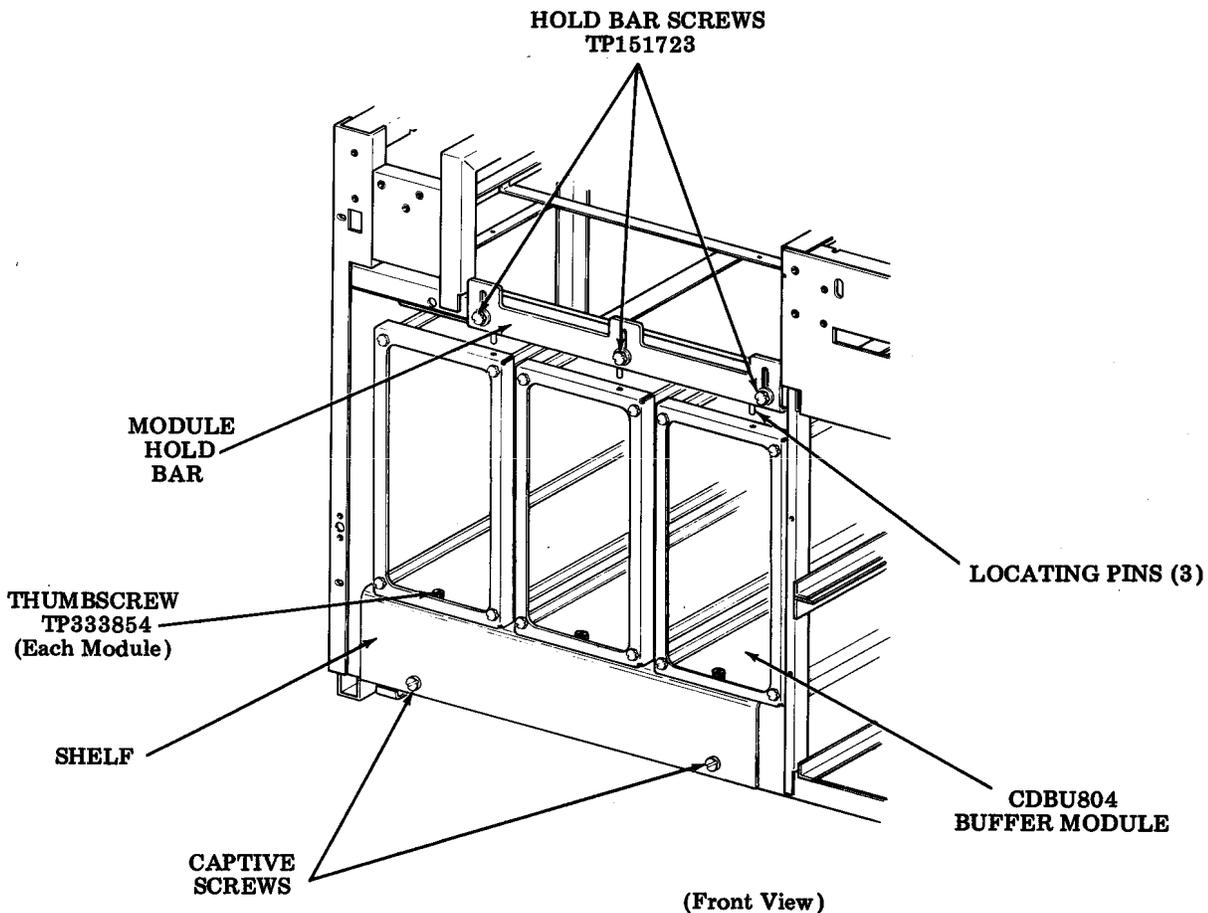
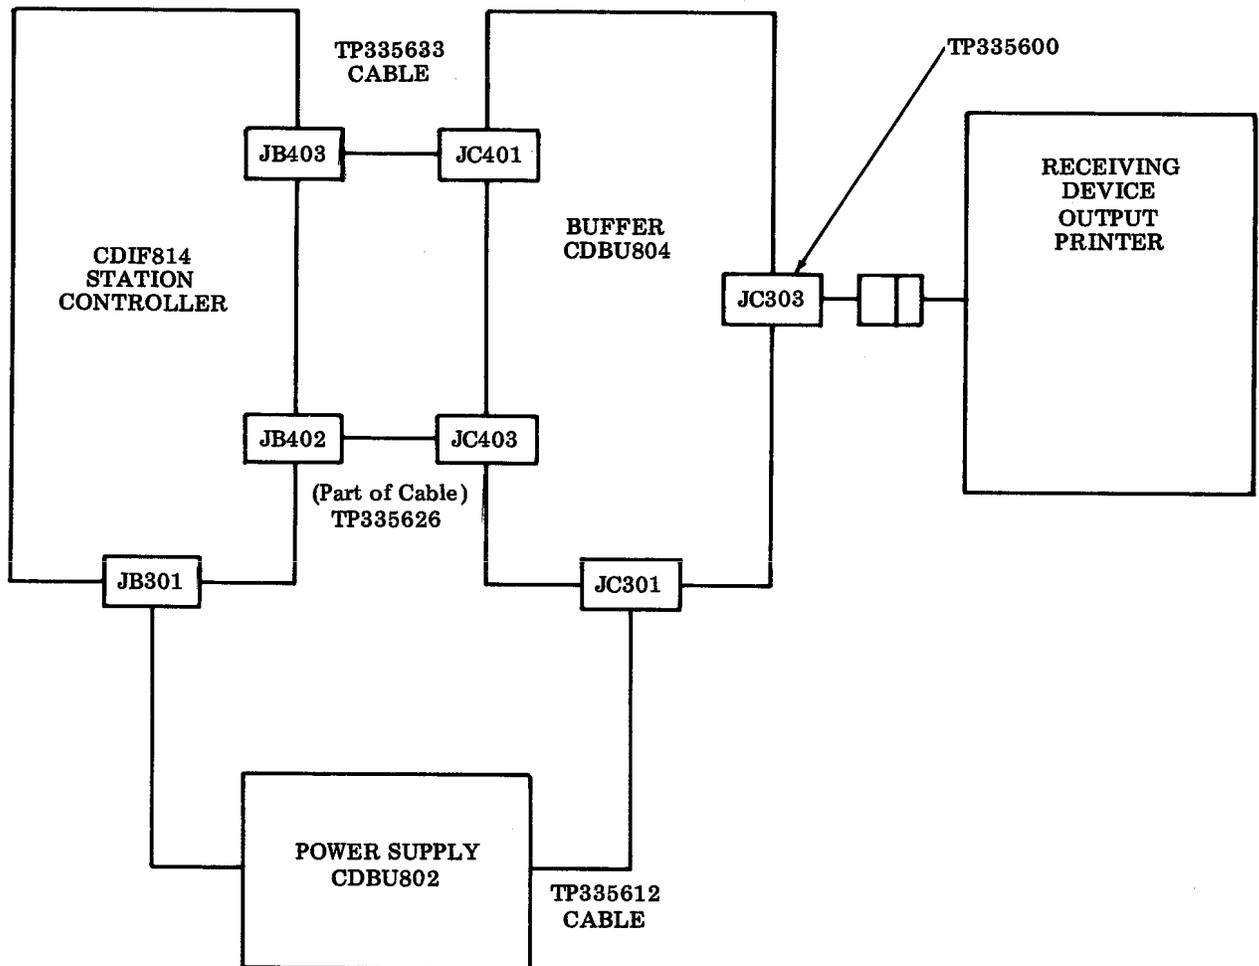
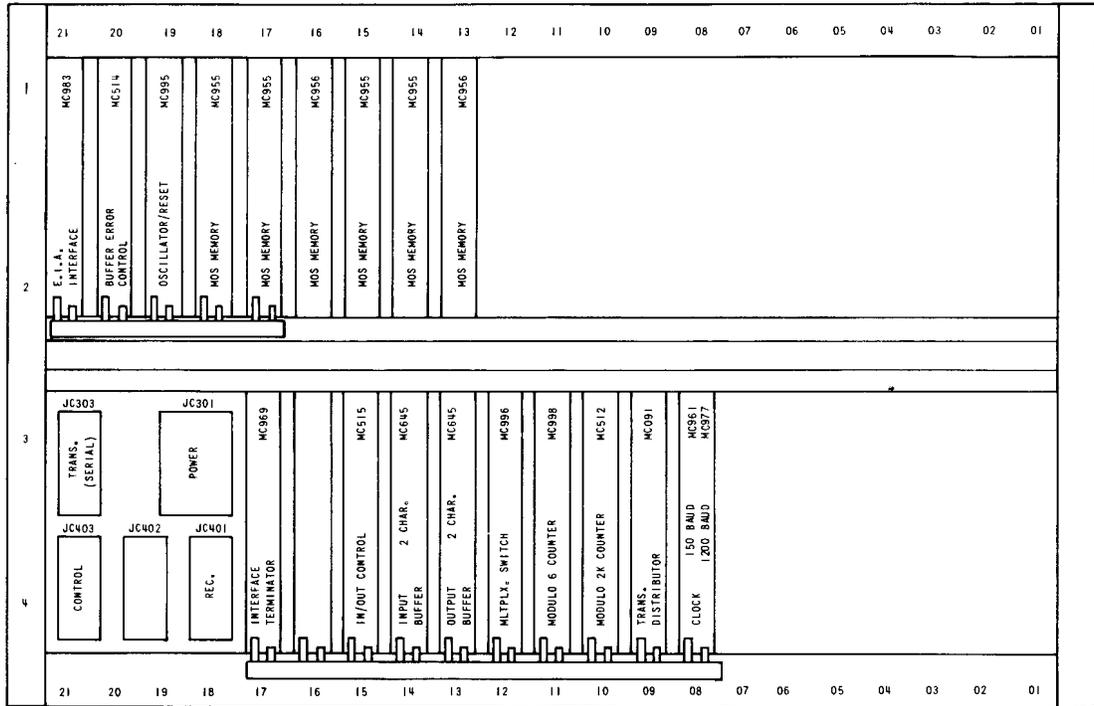

Figure 1 - Display Module Cabinet
Figure 6 - Buffer Cabling for Use With Station Controller
Figure 8 - CDBU804 Buffer Card Location (Wired Side)
3.01 The buffer module is designed to be housed within the display module cabinet or for use in the 2541 buffer interface cabinet. The installation is different for each cabinet; refer to Figures 1, 2 and 578-140-700 for the installation of the buffer module into the 2541 buffer interface cabinet.
- (3) Connect TP335600 connector assembly to the customer provided cable which is connected to the output printer; the other end is connected to JC303 on the buffer, (Figures 6 and 7).
- (4) Remove the cabinet front panel by twisting the two TP333880 fasteners 1/4 turn counterclockwise.
- (5) Lift up the front panel and remove from the set.
- (6) Loosen the three TP151723 screws that secure the module — hold bar in place, see Figure 1.
- (7) Slide the module — hold bar upward and tighten the screws enough to hold the bar up.
- (8) Loosen the two captive screws on the front of the module shelf (Figure 1) and pull the shelf open to the extended position.
(5) Connect cord connectors to module as shown in Figures 6 and 7, program CDBU804 (4.01), perform the checkout and operational tests, and replace buffer set back panel and condition buffer set for operation.
4.01 The following information is provided for programming module operation and for verification that factory programmed options are present in the module. A circuit card location chart is provided in Figure 8. The circuit cards in Figure 6 are shown as they would be viewed from the wired side of the module frame. For reference, refer to 9355WD wiring diagrams and 1193WD schematic diagrams included in the buffer module wiring diagram package, WDP0331.